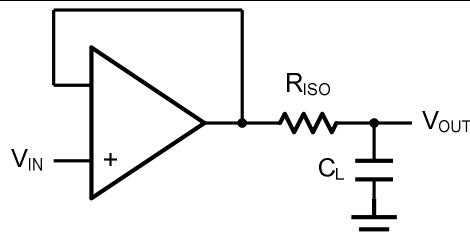
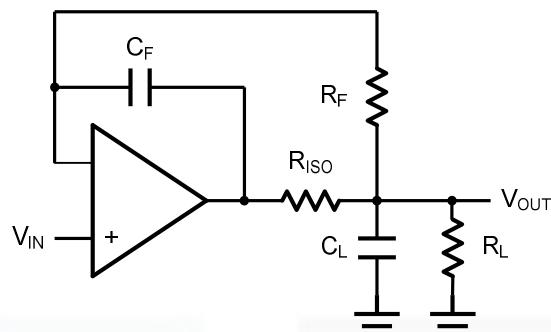

Figure 2. Indirectly Driving a Capacitive Load Using Isolation Resistor
Figure 3. Indirectly Driving a Capacitive Load with DC Accuracy
The GS6041 family is optimized for bandwidth and speed, not for driving capacitive loads. Output capacitance will create a pole in the amplifier's feedback path, leading to excessive peaking and potential oscillation. If dealing with load capacitance is a requirement of the application, the two strategies to consider are (1) using a small resistor in series with the amplifier's output and the load capacitance and (2) reducing the bandwidth of the amplifier's feedback loop by increasing the overall noise gain. Figure 2. shows a unity gain follower using the series resistor strategy. The resistor isolates the output from the capacitance and, more importantly, creates a zero in the feedback path that compensates for the pole created by the output capacitance.
The circuit in *Figure 3* is an improvement to the one in *Figure 2*. R_F provides the DC accuracy by feed-forward the V_{IN} to R_L . C_F